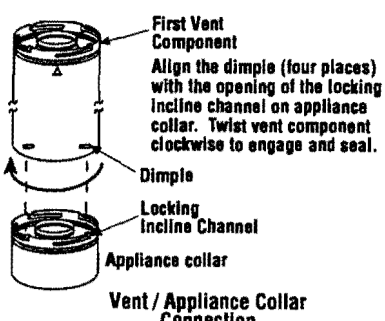

**Figure 16**
**C. Frame ceiling opening -** If the vertical route is to penetrate a ceiling, use plumb line to locate the center above the appliance. Cut and/or frame an opening, 10 1/2" x 10 1/2" (267 mm x 267 mm) inside dimensions, about this center (refer to Figure 16 on page 11).
**A. Frame ceiling opening** - Use a plumb line from the ceiling above the appliance to locate center of the vertical run. Cut and/or frame an opening, 10 1/2" x 10 1/2" (267 mm x 267 mm) inside dimensions, about this center mark (**Figure 16**).